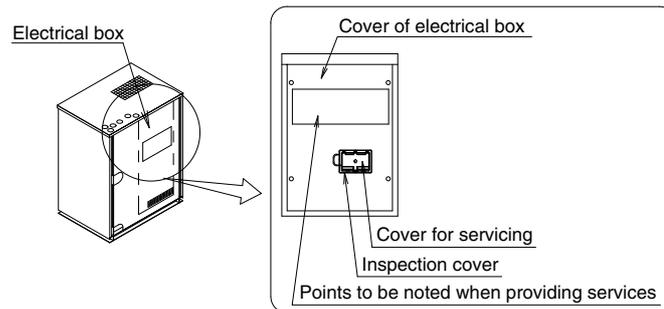

figure 27
(1) Check the connection of interlock circuit	The outside unit cannot be operated if the interlock circuit has not been connected.
(2) As necessary, configure the system settings onsite by using the dip switch (DS1) and push button switches (BS1 to 5) on the outside unit PC board (A1P). After this, close the cover of electrical box.	Always perform configuration after turning ON the power. To learn the setting method, refer to the [Service Precautions] label attached at the cover of electrical box shown in the figure 27. Remember, the actual settings you have made must be recorded on the [Service Precautions] label.
(3) Turn ON the power to the outside units and indoor units.	Make sure to turn ON the power 6 hours before starting the operation. This is necessary to warm the crankcase by the electric heater.
(4) Start the heat source water pump and fill the heat source water in the outside unit.	The outside unit cannot be operated if the heat source water pump is not running.
(5) Make sure that the temperature of heat source water is kept within the operation range (10 - 45°C).	The outside unit cannot be operated at a temperature outside the operation range.
(7) • Using the push button switches (BS1 - 5) on the P-panel (A1P) of outside unit, carry out a local setting, if necessary. • In case of an installation of multiple outside units, carry out the setting on the master unit. (Setting on the slave unit becomes invalid.)	Always carry out the setting only after the power supply has been applied. For the method of setting, refer to the label of “Points to be noted when providing services” attached to the cover of electrical box (shown in the figure 27) of the outside unit. (After setting, record the details of that setting to the label of “Points to be noted when providing services” without fail.)
(8) Check all shutoff valve is opened. If some shutoff valve is closed, open them. (Refer to “9-10 Shutoff valve operation procedure”.)	[CAUTION] Do not leave any shutoff valve closed. Otherwise the compressor will fail. For Heat recovery system of cooling and heating: Open all stop valves on the suction side, discharge gas side and liquid side. For cooling and heating switching operation system: Open the stop valves on discharge gas side and liquid side. (Keep the stop valve on suction side fully closed.)
(9) Perform the check operation following the instructions printed on the [Service Precautions] label.	If you push the test run button (BS4) on the P-panel (A1P) of the outside unit for 5 seconds, the test run starts. If you want to interrupt the test run, push the RETURN button (BS3) on P-panel (A1P) of the outside unit. The system continues residual operation for about 1 minute (maximum 10 minutes) and then stops. (During test run, you cannot stop it by a command from a remote controller.) You need to perform the above settings on the PC board by accessing the PC board through the inspection cover on the switch box cover.